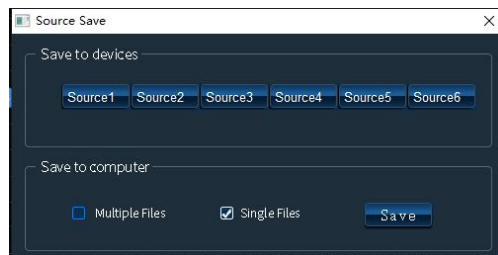
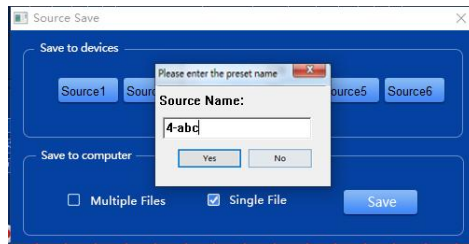

Figure 3.4.2
Figure 3.4.3
Step2: Click "Save" item will pop up after the Save As dialog window machine preset (Figure 3.4.2).
Step 3: Figure 3.4.2 dialog box, does not show the name of the data indicates that this scene is the factory default data, select the user preset number you want to save the machine location (such as Option 4), and then point below the "save "button, you pop up as shown in Figure 3.4.3," enter the scene name "box. **If you select the number of the existing scene name, it will overwrite the original data! !**